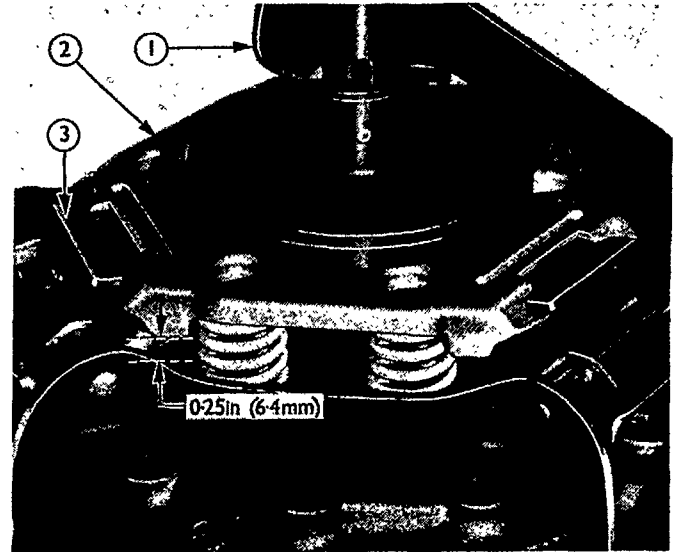

Figure 23
4. Install actuator assembly SW12B/28 by screwing it into the bridge spider of the base plate until depressing the actuator lever fully produces a gap of 0.25 in. (6.4 mm.) between the corner of the spring retainer and the cover, see Figure 23.
5. Push the angle links, Figure 23, from their location in the spring retainer. It may be necessary to release the actuator and screw it further into, or out of, the base plate spider in order to obtain the position which will completely free the angle links from the spring retainer.